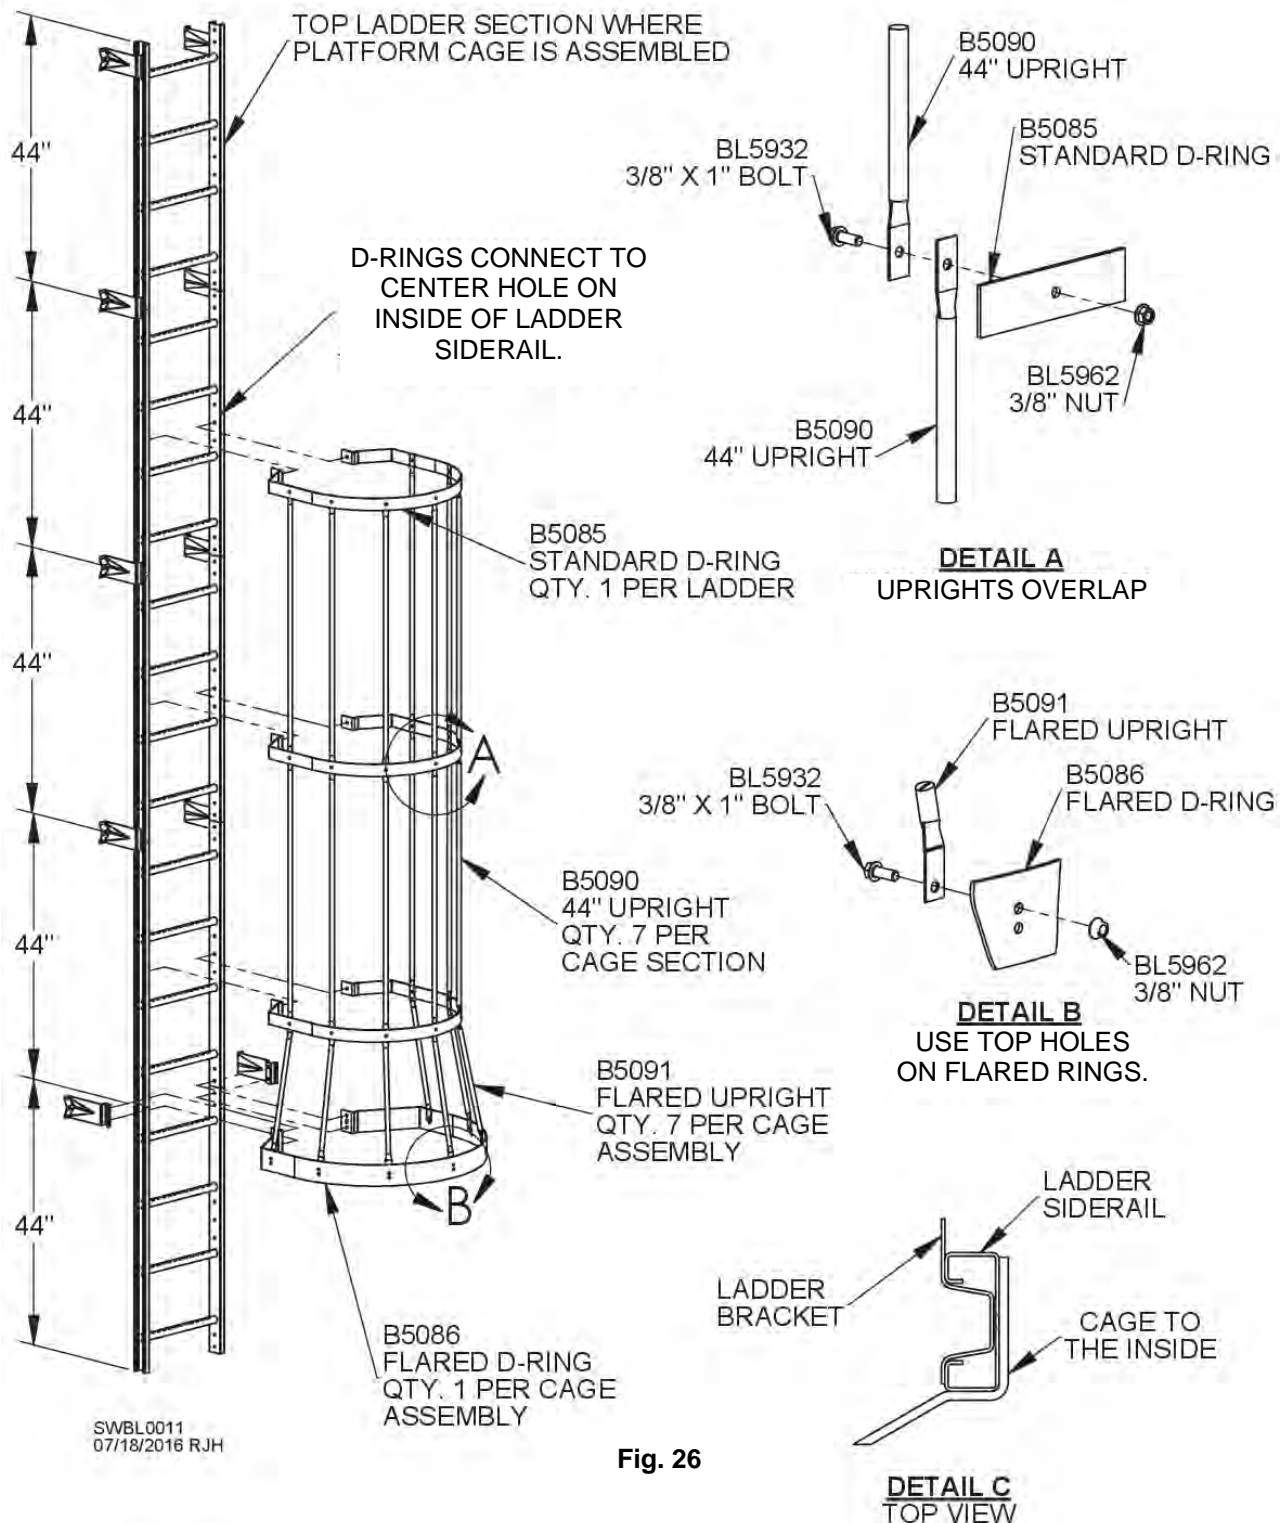

Fig. 26
As bin is built, continue to add appropriate ladder and cage sections. Refer to following pages for specific ladder and cage layouts. Cage sections consist of standard D-rings and seven (7) uprights. Standard D-rings attach to inside of ladder siderails. A flared D-ring (B5086) is always used at bottom of each cage assembly. Top D-ring must be connected to middle of top ladder section. This allows bottom flared D-ring to be at proper height above the next surface (concrete or landing platform). Attach standard D-rings and uprights to ladder sections with 3/8" hardware. See Fig. 26.